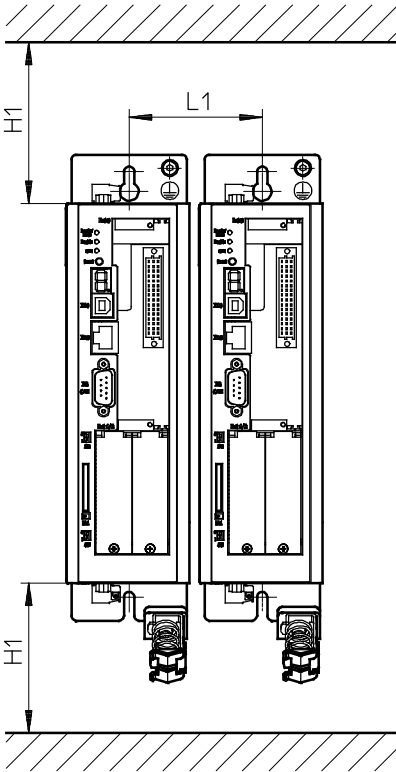

Fig. 3.4 Motor controller CMMP-AS-...-M3: Mounting distance and installation clearance
- The motor controllers of the CMMP-AS-...-M3 family are designed so that they can be mounted on a heat-dissipating mounting plate if used as intended and installed correctly. We wish to point out that excessive heating can lead to premature aging and/or damage to the device. With high thermal stress on the motor controller CMMP-AS-...-M3, a mounting distance (→ Fig. 3.4) is recommended!